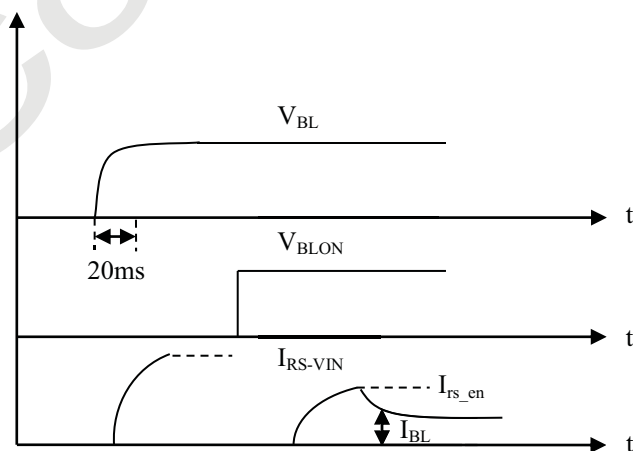

Fig. 3.4 The timing sequence diagram of inrush current measurement
(1) Dimming ratio = 100% (Max.) ($T_A = 25 \pm 5 \text{ }^\circ\text{C}$, Turn on for 45minutes).
(2) The measurement condition: V_{BL} rising time is 20 ms. (V_{BL} from 10% ~ 90%), the sequence diagram is shown as Fig. 3.4.
(3) Normal: 0 ~ 0.8V; Abnormal: Open collector.